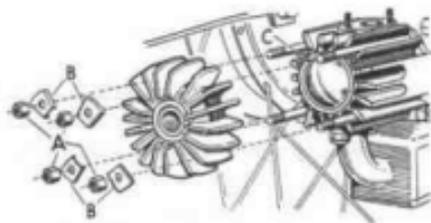

Fig. W6. Head off with piston at T.D.C.
Remove the ignition lead and sparking plug, undo the four cylinder head retaining nuts (A, Fig. W6) and remove the saddle washers (B). The cylinder head can then be lifted clear of the barrel. Rotate the engine until the piston is at the top of its stroke and using a suitable